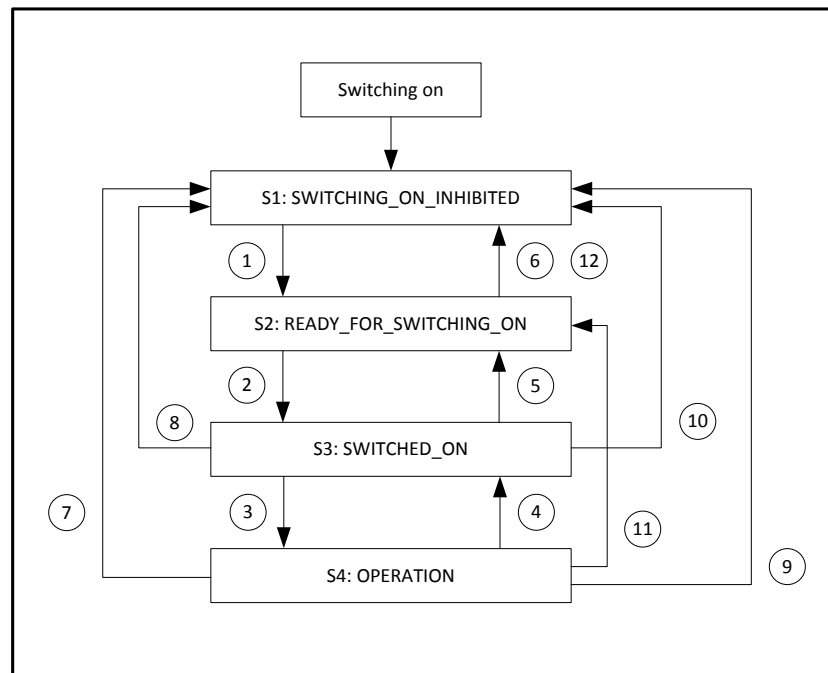

Figure 9-2: Simplified state diagram
The states have been taken over to a large extent from the PROFIdrive specification. PROFIdrive distinguishes between a ramp stop and a quick stop. The controller enabling is deactivated in both cases so that the simplified state diagram shown in Figure 9-2 results.
- 3.) According to the state diagram (Figure 9-2), state transitions 1, 2 and 3 have to be performed.